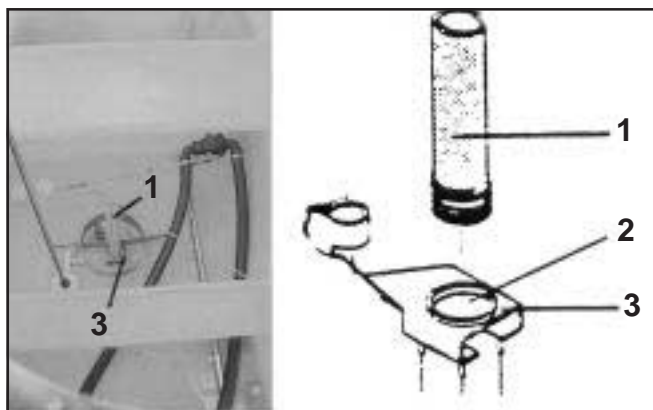

Fig. 12.4
The use of the urea filter (Fig. 12.4/1) is recommended when filling with urea to avoid undiluted particles to reach into the suction area and to block the filter tap (Fig. 12.4/2).
- Remove the plug of the screw-in opening (Fig. 12.4/2) in the tank sump.
- Screw in the urea filter by spinning it clock-wise into the bottom (Fig. 12.4/3).